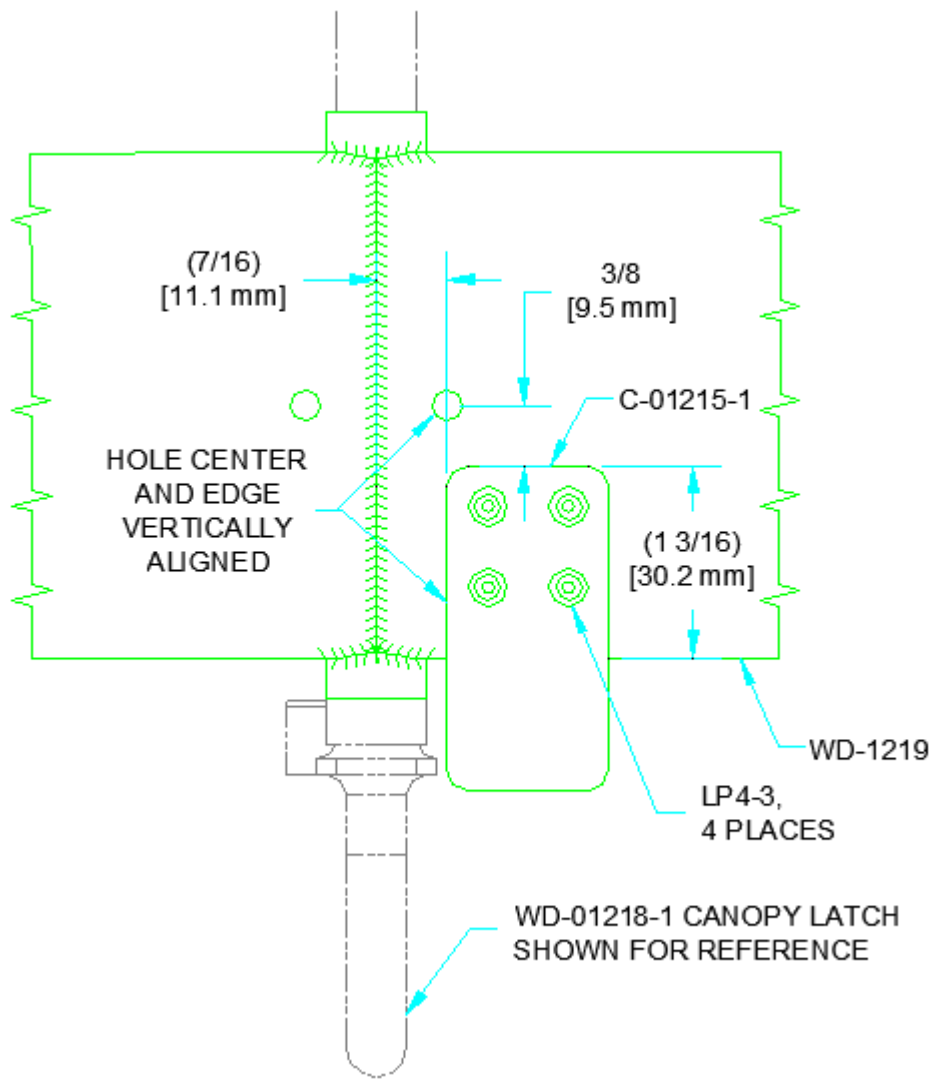

FIGURE 1: ADDING C-01215-1
Step 2: Install the C-1215-1 Latch Handle Stop as shown in Figure 1. If installing the canopy handle for the first time use the dimensions to position and match-drill #30 the latch handle stop to the WD-1219 Canopy Frame.